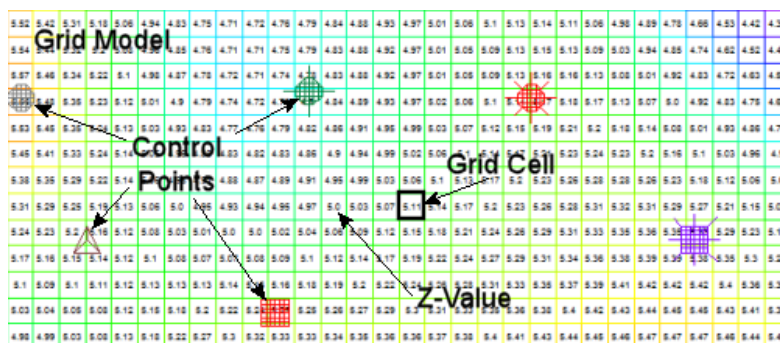

Figure 2. Grid Model Terminology
Grid Model: Data structure used to model data that has two independent variables (X and Y) and one dependent variable (Z). For any given XY coordinate there can only be one Z value (e.g. elevation). Examples of data that can be modeled with grids include surface topography, surface geochemistry, and formation thicknesses. Grids model XYZ data by assigning an interpolated value to imaginary cells (nodes) within the grid based on the surrounding control points (Figure 2). There are many different gridding methods (algorithms), for performing these estimations, each of which has its own strengths and limitations. There is no universal algorithm that is applicable to all types of geologic data. Also referred to as just "Grid."